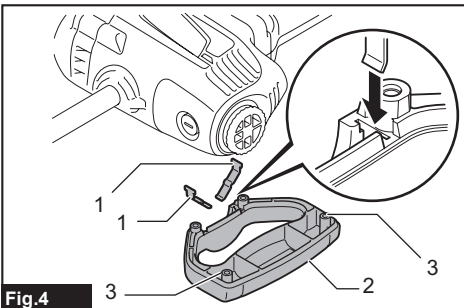

Fig.4
► Fig.4: 1. Leaf spring 2. Rear handle 3. Boss